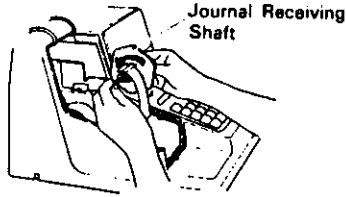

Fig. 11
7. Insert the end of the journal paper into the slot on the Journal Receiving Shaft and wrap it around the shaft twice to secure the paper. (Fig. 11)